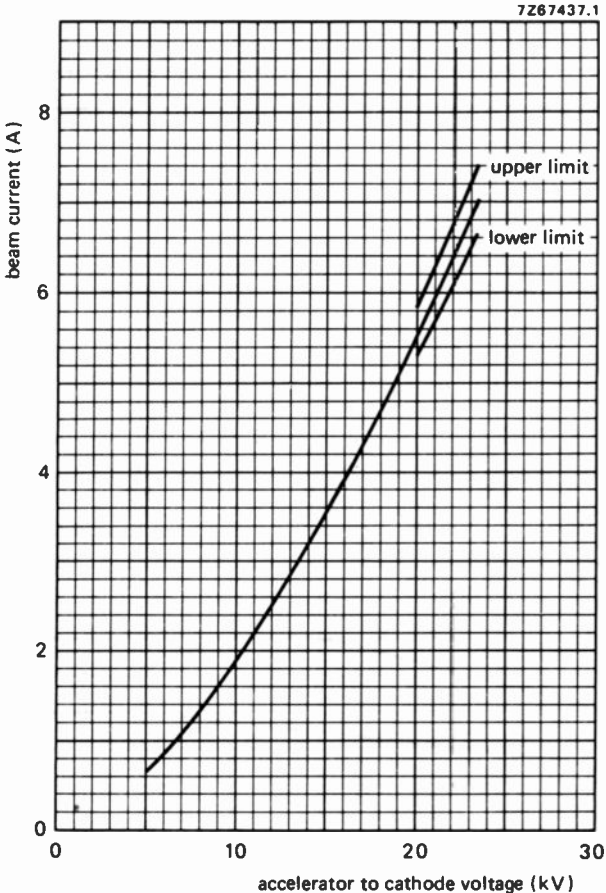

Fig. 4.
6. For beam current (tolerance \pm 5%) versus accelerator-to-cathode voltage, see Fig. 4.